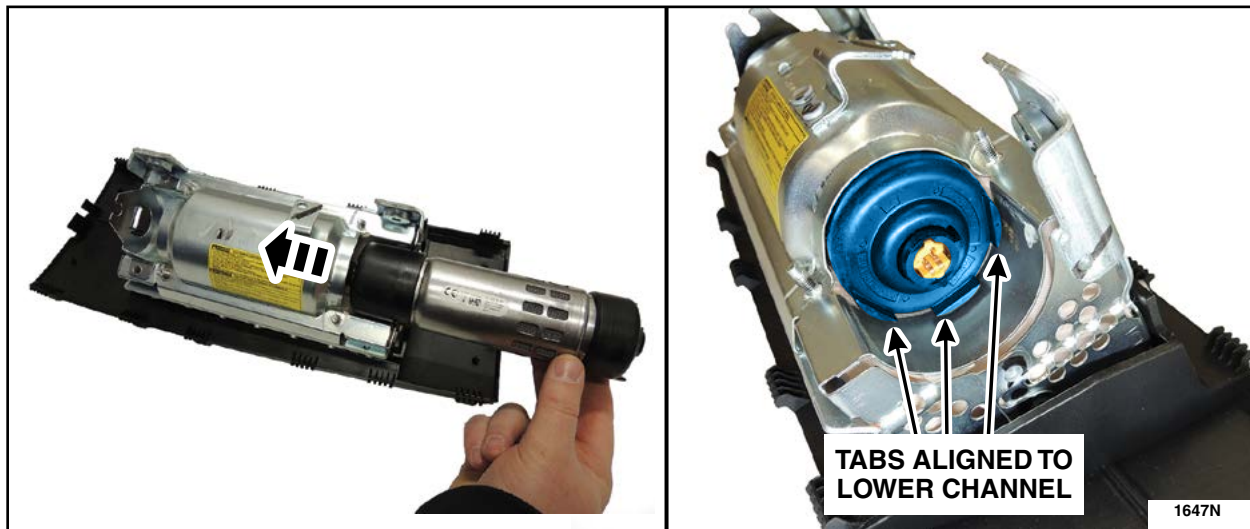

FIGURE 14
9. Install the inflator into the passenger airbag assembly with the orange connector end facing out. Align the three tabs on the cap nearest the inflator retaining bracket with the airbag module lower channel (facing down). See Figure 14.